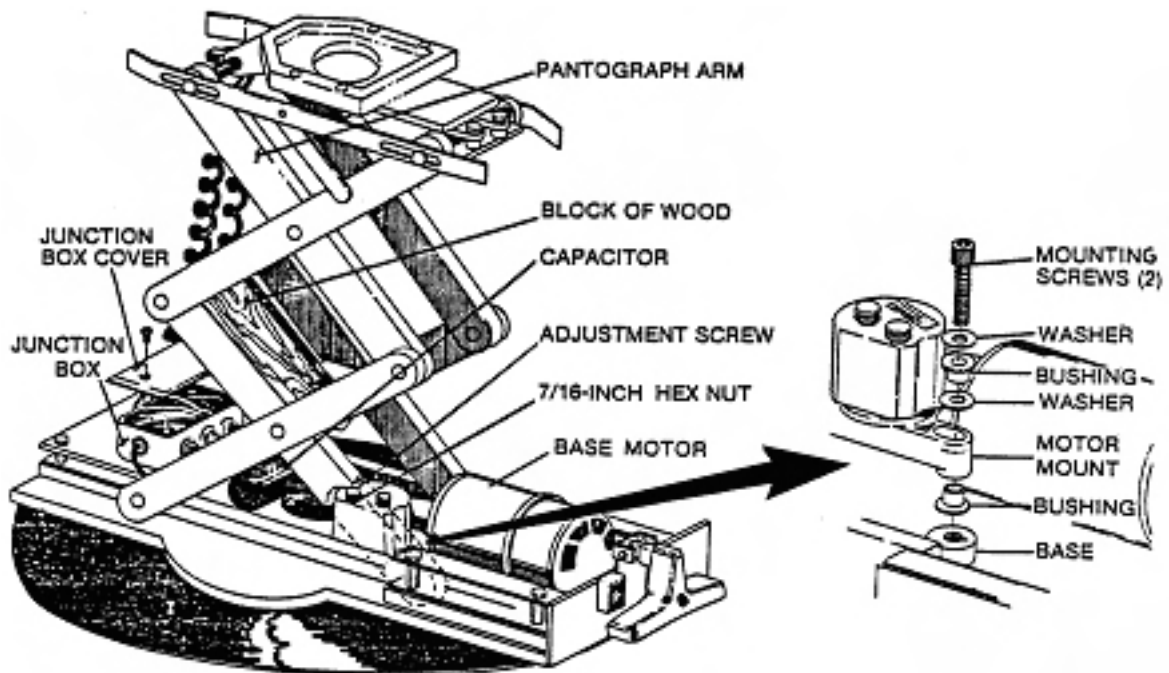
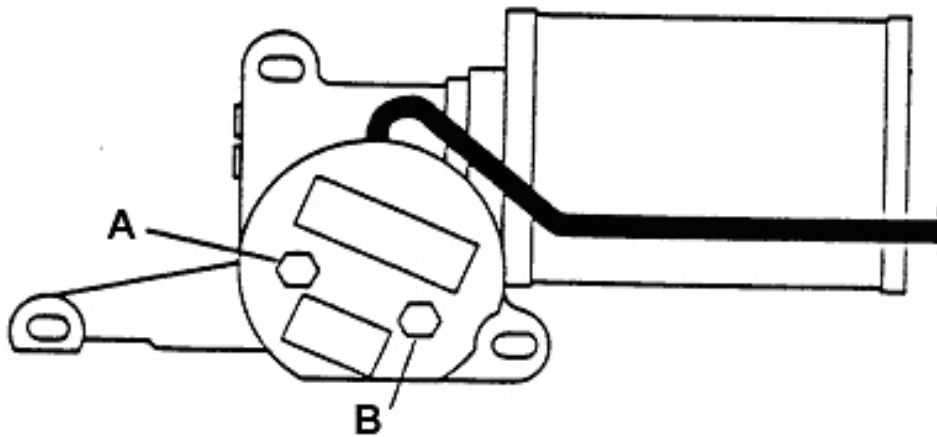

Figure 3-4. PLA-R-200 lift.
Figure 3-7. Switches "A" and "B" on PLR-200.
CAUTION: Place a block of wood, five inches long, between the pantograph arms on one side and lower the pantograph slightly to grip the block of wood securely. Refer to figure 3-4.
(13) Check the lift to ensure that it is blocked to its highest position. Make adjustments as required.
(14) Engage the chain drive upon the sprockets and replace the three mounting screws. Pull the motor to tighten the drive chain while tightening the mounting screws. Refer to figure 3-4.
(15) Remove the wood block from the pantograph arms.
(16) Run the lift down to check the lower extreme position.
(17) Adjust the height of the lift using a 7/16 inch open-end or box wrench. Loosen the locknut on the adjusting screw (Switch "A" on PLR-200) (refer to figure 3-7) and turn clockwise (refer to figure 3-4) to raise the lower limit of the lift. Turn counterclockwise to decrease the lower limit of the lift. Each full turn of the adjusting screw changes the lift height 9/16 inch.
(24) Adjust the automatic exit position (Switch "B" in figure 3-7) to the desired position as described in step (17) above.